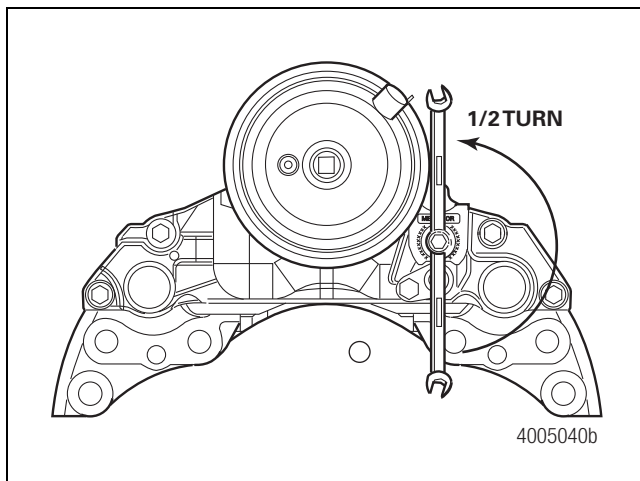

Figure 5.7
1. To check for correct brake adjustment, deadadjust the brake. Use a 10 mm wrench to rotate the adjuster stem one-half turn COUNTERCLOCKWISE. Figure 5.7.